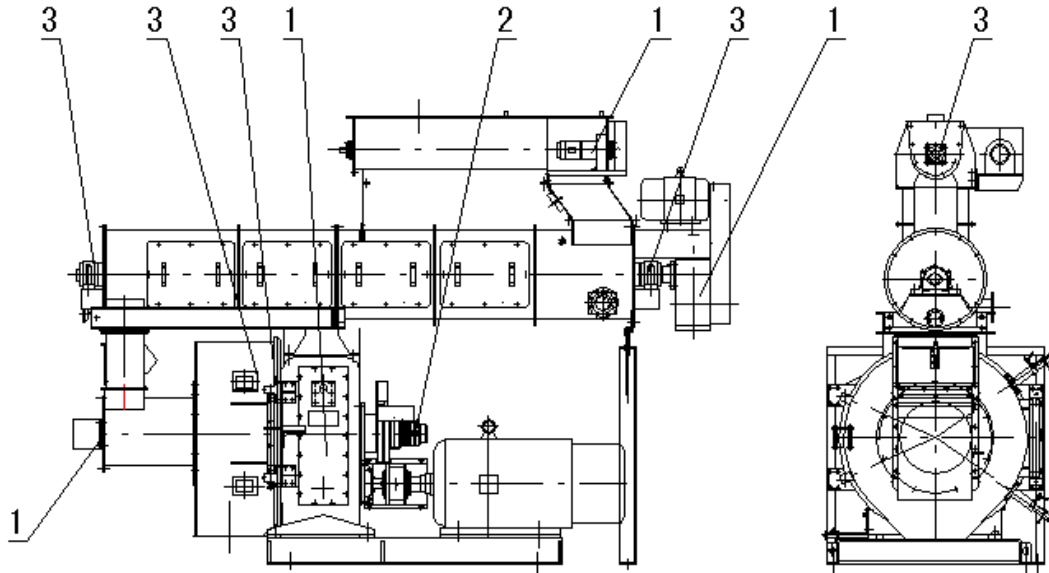

Figure 8 SZLH678 (768) MX granulating machine lubrication chart
4.3.6 Check the oil level of oil level gauge at the side gearbox and make sure that the oil level is at the point of 2/3 graduation. Meanwhile, lubricate main shaft bearing, roller bearing and other lubrication points according to Figure8.